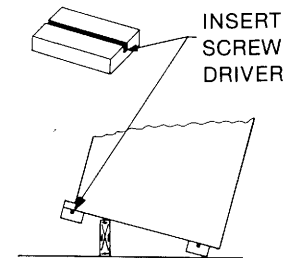

Figure 4
5. Remove Knock-A-Way Support by inserting a screwdriver and splitting the Knock-A-Way in two. Turn the leveling screws in as far as possible. Position the Vendor in its place of operation. Level the Vendor, making sure all levelers are touching the floor. The Vendor must be level for proper operation and acceptance of coins through the Coin Mechanism. If the Vendor is properly leveled, it should not rock or teeter on any of the levelers. (See Figure 4.)